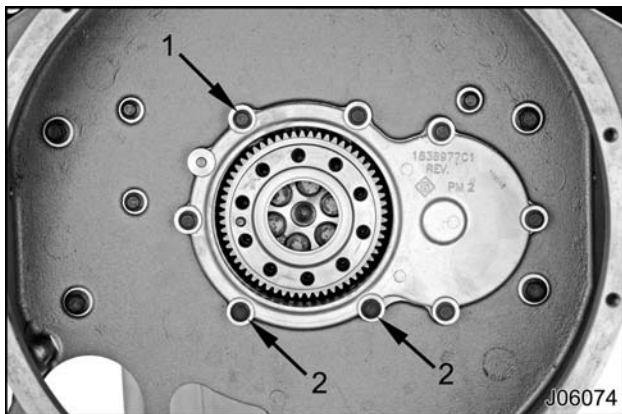

Figure 611 Rear oil seal carrier bolts (stripped chassis)
1. Bolts, M8 x 25 (6)
2. Bolts, M8 x 70 (2)
5. Install two rear oil seal carrier bolts (M8 x 70) in lower holes (Figure 611). Install six remaining rear